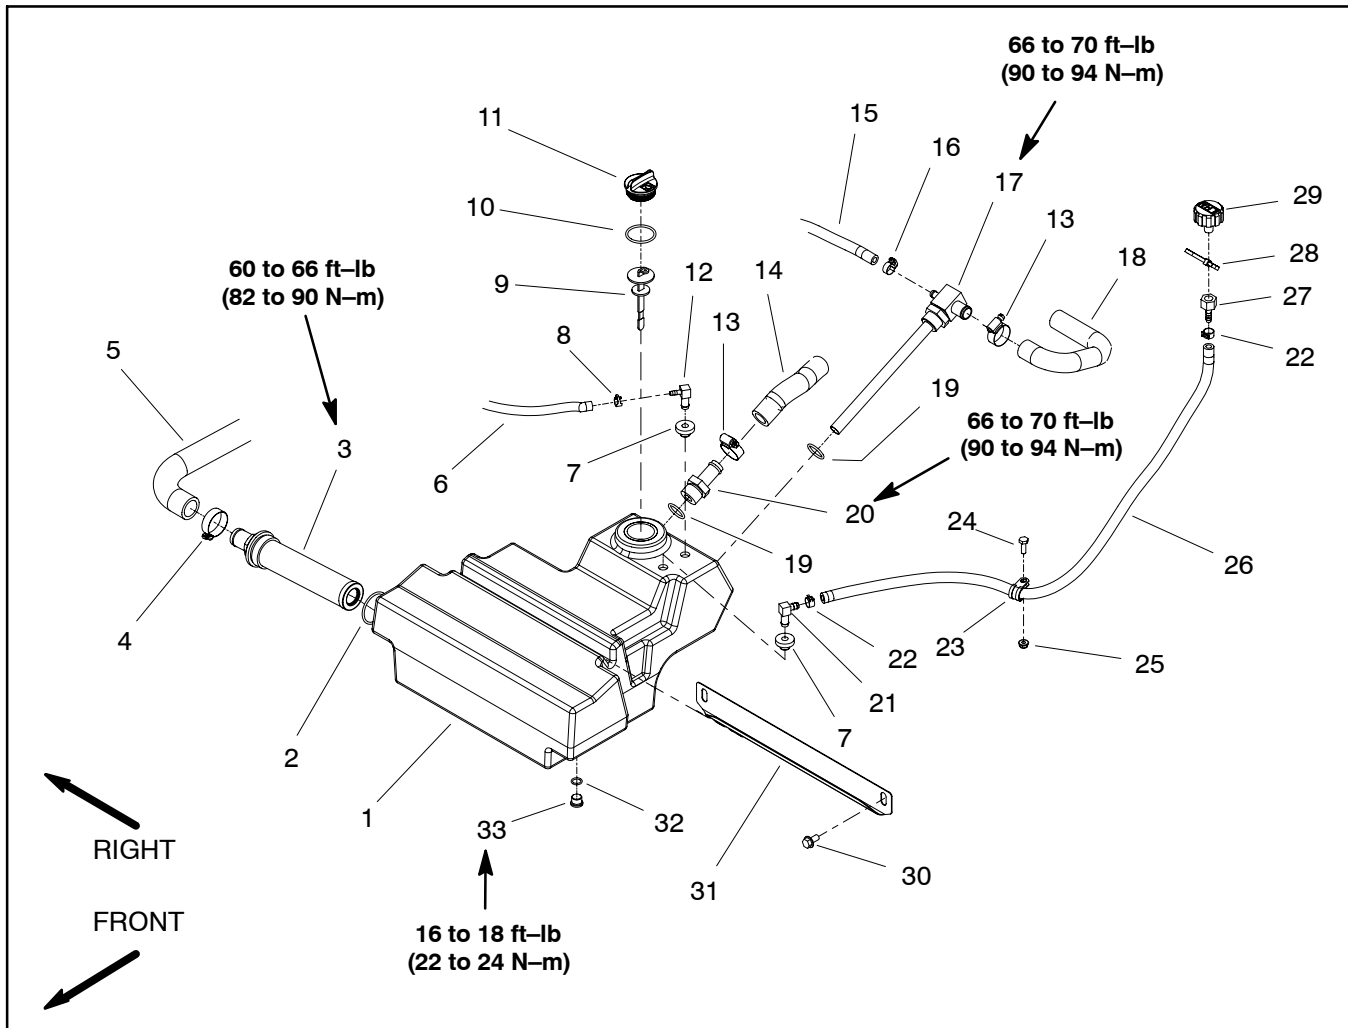
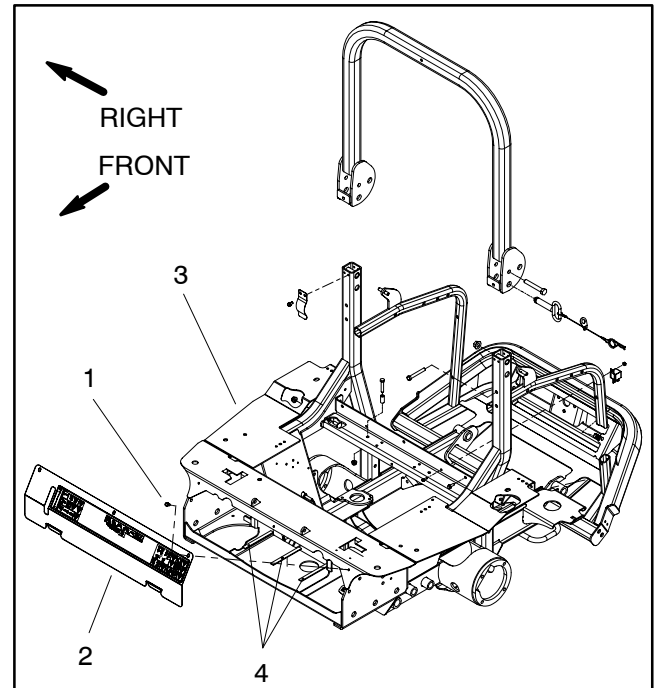

Figure 29
Figure 30
### Hydraulic Tank Removal (Fig. 29)
3. Remove front cover from machine (Fig. 30).
9. Remove two (2) washer head screws and tank support that retain hydraulic tank to frame.
12. As needed, remove fittings from hydraulic tank using Figure 29 as a guide. Discard and replace any removed O-rings.
### Hydraulic Tank Inspection (Fig. 29)
### Hydraulic Tank Installation (Fig. 29)
2. Attach removed fittings with new, lubricated O-rings to hydraulic tank using Figure 29 as a guide (see Hydraulic Fitting Installation in the General Information section of this chapter). Tighten fittings to torque values identified in Figure 29.
3. Position hydraulic tank to machine. Secure tank to frame with tank support and two (2) washer head screws.
7. Secure front cover to machine (Fig. 30).